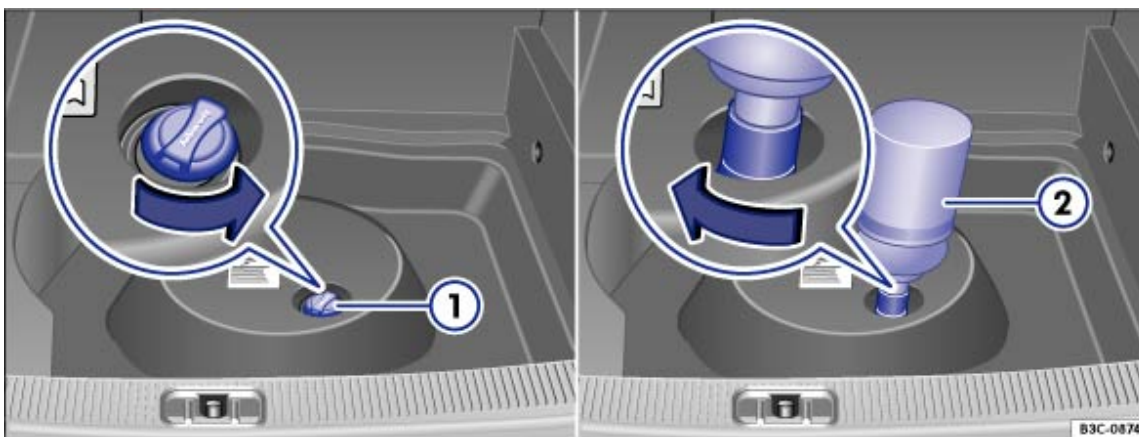

Fig. 191 AdBlue tank with filler neck tank cap and refill bottle
- Unscrew the cap of the tank filler neck → Fig. 191 ① anti-clockwise.
- Place the neck of the refill bottle → Fig. 191 ② on the tank filler neck and turn it clockwise hand-tight.
- Screw the cap onto the filler neck → Fig. 191 ① clockwise until it engages.